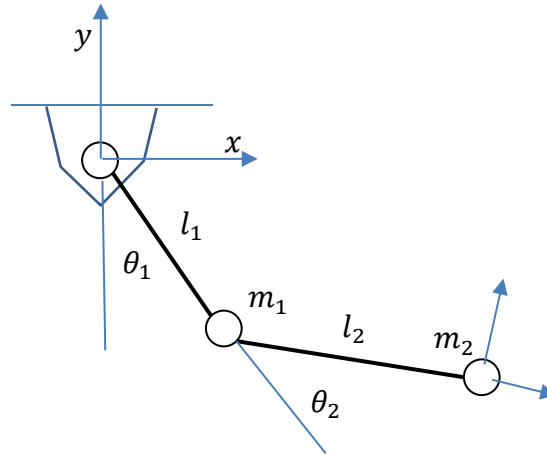

Figure 2 : 2R robot manipulator on the ceiling
- (c) Figure 2 shows a 2R robot manipulator mounted on a ceiling. Ceiling mounting is an applied method in some robotic operated assembly line.